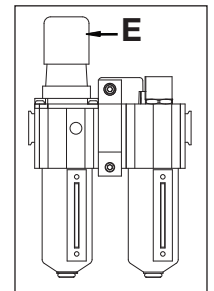

Figure 6
The adjustment screw (E) is factory-adjusted fully clockwise, so no oil is delivered to lubricate the system. To make initial adjustment, turn on the air and start flow to the system. Turn knob to adjust oil drip rate. Turning knob counter-clockwise increases drip rate. (see Fig. 6) Set the drip rate to one or two drops per minute initially and fine tune the rate after the system reaches its normal operating temperature.
(See figure 6.)